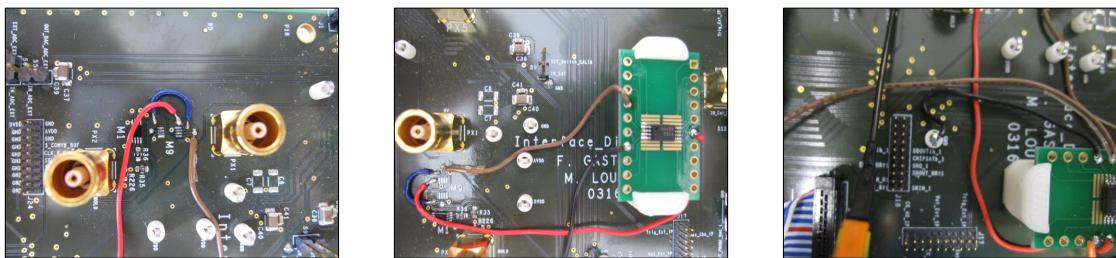

Figure 1.26: Interface connections
4. Referring to Figures 1.26 and 1.25, connect with some wires the pins in this way:
6. Now connect the interface holes around the M9 chip as shown in Figures 1.26 (blue cable). In the document I was given those are called pin number 1 and 7. Anyway, as I said, without the schematics those numbers are meaningless. Sometimes I wonder if Physicists are really so smart as they think to be.